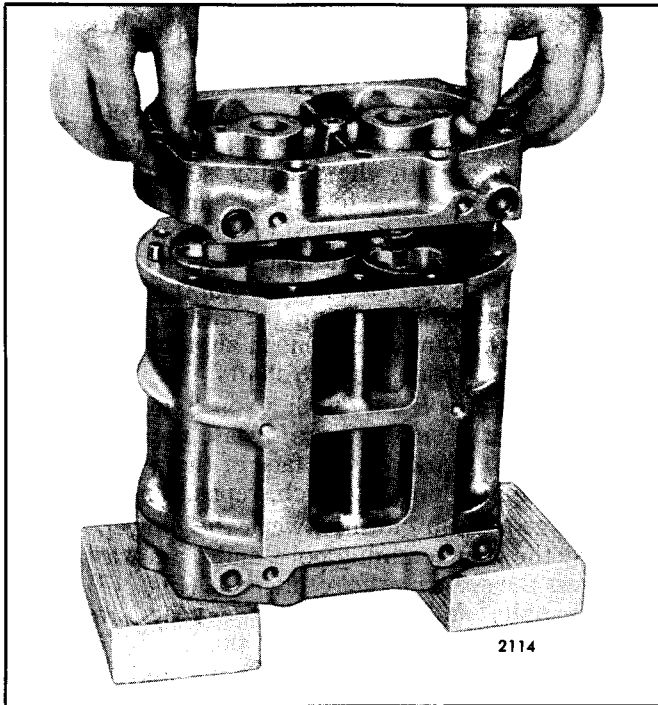

Fig. 15 - Installing Rear End Plate
6. Place the rear end plate over the rotor shafts (Fig. 15). On the former blowers, be sure that the ring type oil seals are properly positioned on the rotors. Then, secure each end plate to the 3-53 blower housing with two end plate retaining screws and two cover bolts and plain washers. Secure each end plate to the 4-53 or 6V blower with four end plate cover bolts and plain washers.